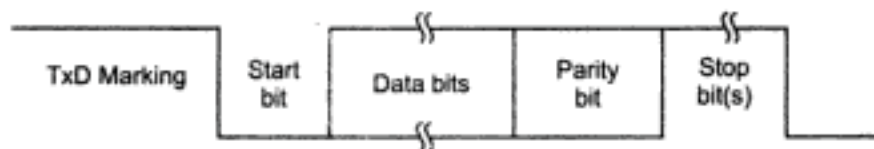

Fig. 10.9 Transmitter output in asynchronous mode
**Operation :** When transmitter is ready to transfer data on TxD line, CPU sends data character and it is loaded in the transmit buffer register. The 8251A then automatically adds a start bit (low level) followed by the data bits (least significant bit first), and the programmed number of STOP bit(s) to each character. It also adds parity information prior to STOP bit(s), as defined by the mode instruction. The character is then transmitted as a serial data stream on the TxD output at the falling edge of  $\overline{\text{TxC}}$ . The rate of transmission is equal to 1,  $\frac{1}{16}$  or  $\frac{1}{64}$  that of the  $\overline{\text{TxC}}$ , as defined by the mode instruction. Fig. 10.9 shows the transmitter output in the asynchronous mode.